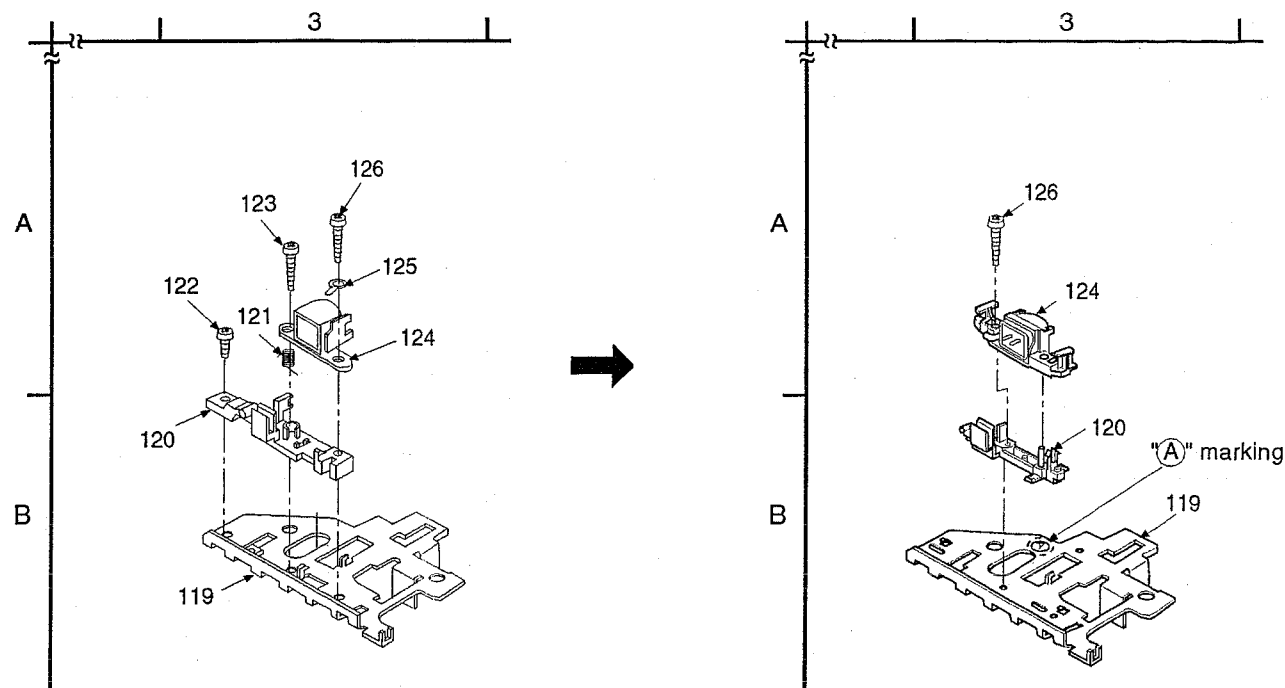

Figure 1
- The modified mechanism can also be identified by a (A) marking on the Head panel of the mechanism. (Refer to Figure 1)